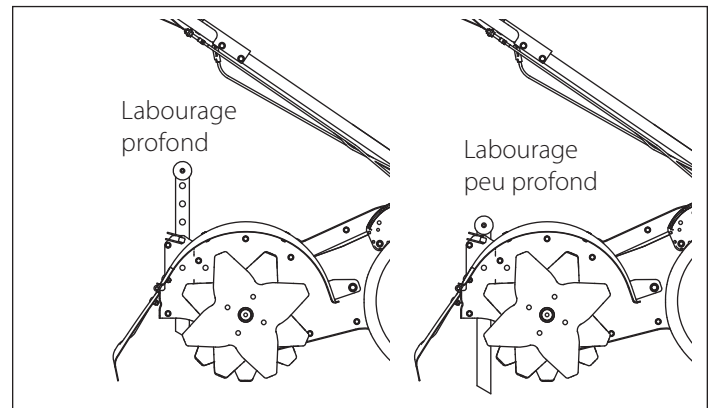

Figure 17
**BARRE DE TRAÎNÉE :** VOIR FIGURE 17